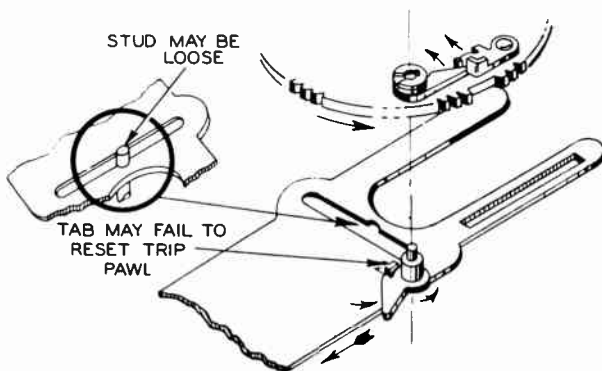

Figure V19.
9. **Changer Rejects Continuously:** See figure V19.